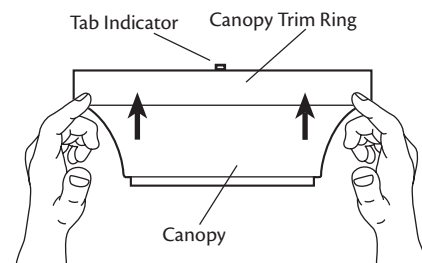

Figure 17 - Removing the canopy trim ring
- Locate the tab indicators, small bumps on top of tabs. Refer to Figure 17.
- To remove the canopy trim ring, press firmly on opposite sides of the ring towards the canopy as shown in Figure 17. The tabs will flex out releasing the trim ring from the canopy.